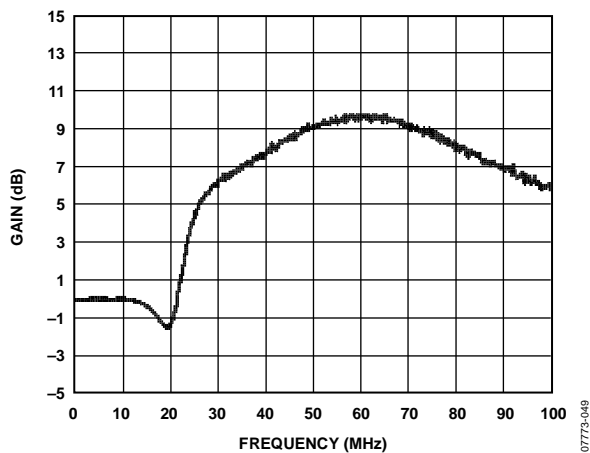
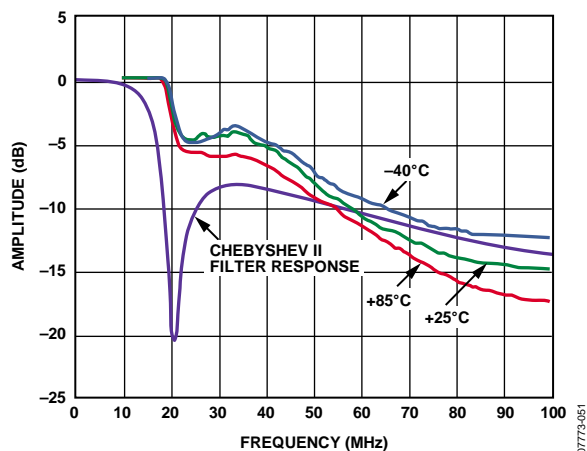
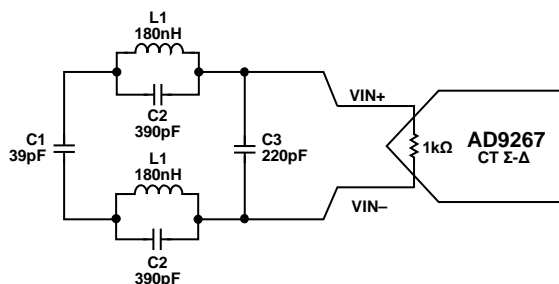

Figure 43. STF
Figure 44. Maximum Input Level for 3 dB Noise Degradation
Figure 45. Third-Order Low-Pass Chebyshev II Filter
An overrange condition can be triggered by large in-band signals that exceed the full-scale range of the Σ - Δ modulator, or it can be triggered by out-of-band signals gained by the transfer characteristics of the modulator. Figure 43 shows the signal transfer function of the Σ - Δ modulator. The modulator output possesses out-of-band gain above 10 MHz. As a result, the input signal may exceed full scale for input frequencies beyond 10 MHz and the ADC may be in an overrange state. The OR \pm x pins serve as indicators for the overrange condition.
Figure 43 shows the normalized STF of the AD9267 CT Σ - Δ converter. The figure shows out-of-band peaking beyond the band edge of the ADC. Within the 10 MHz band of interest, the STF is maximally flat with less than 0.1 dB of gain. Maximum peaking occurs at 60 MHz with 10 dB of gain. To put this into perspective, for a fixed input power, a 5 MHz in-band-signal appears at -5 dBFS, a 25 MHz tone appears at -2 dBFS and 60 MHz tone at $+5$ dBFS. Because the maximum input to the ADC is -2 dBFS, large out-of-band signals can quickly saturate the system. This implies that under these conditions, the digital outputs of the ADC no longer accurately represents the input. Refer to the Overrange (OR) Condition section for details on overrange detection and recovery.
Figure 43 shows the gain profile of the AD9267 and this can be interpreted as the level in which the signal power should be scaled back to prevent an overload condition. This is the ultimate trip point and before this point is reached, the in-band noise (IBN) slowly degrades. As a result, it is recommended that the low-pass filter be designed to match the profile of Figure 44, which shows the maximum input signal for a 3 dB degradation of in-band noise. The input signal is attenuated to allow only 3 dB of noise degradation over frequency.
The noise performance is normalized to a -2 dBFS in-band signal. The AD9267 STF and NTF are flat within the band of interest and should result in almost no change in input level and IBN. Beyond the bandwidth of the AD9267, out-of-band peaking adds gain to the system, therefore requiring the input power to be scaled back to prevent in-band noise degradation. The input power is scaled back to a point where only 3 dB of noise degradation is allowed, therefore resulting in Figure 44.
An example third-order low-pass Chebyshev II type filter is shown in Figure 45 and the corresponding magnitude vs. frequency response of the filter is shown in Figure 44.
In addition to matching the profile of Figure 44, group delay and channel matching are important filter design criteria. Low tolerance components are highly recommended for improved channel matching, which translates to minimal degradation in image rejection for quadrature systems.